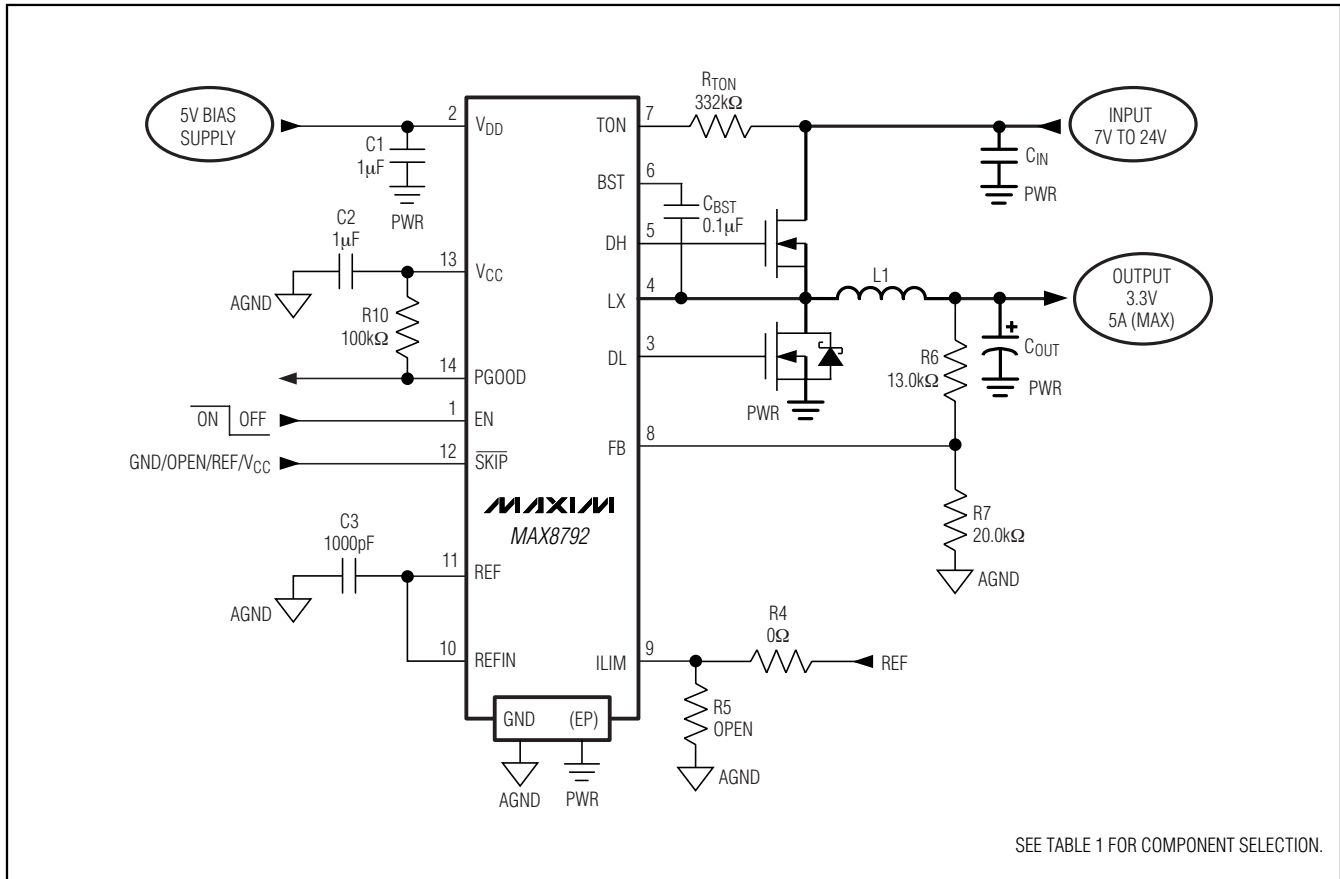

Figure 4. High Output-Voltage Application Using a Feedback Divider
Although REFIN is limited to a 0 to 2V range, the output-voltage range is unlimited since the MAX8792 utilizes a high-impedance feedback input (FB). By adding a resistive voltage-divider from the output to FB to analog ground (Figure 4), the MAX8792 supports output voltages above 2V. However, the controller also uses FB to determine the on-time, so the voltage-divider influences the actual switching frequency, as detailed in the *On-Time One-Shot* section.